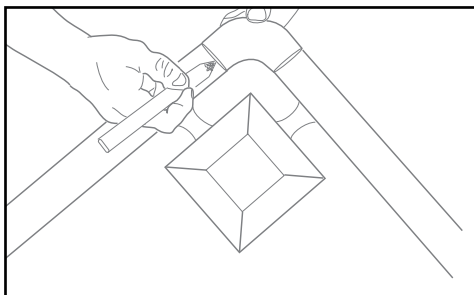

Fig. 13
- Place the corner in line with each lineal. Scribe and cut the lineals - Fig. 13.